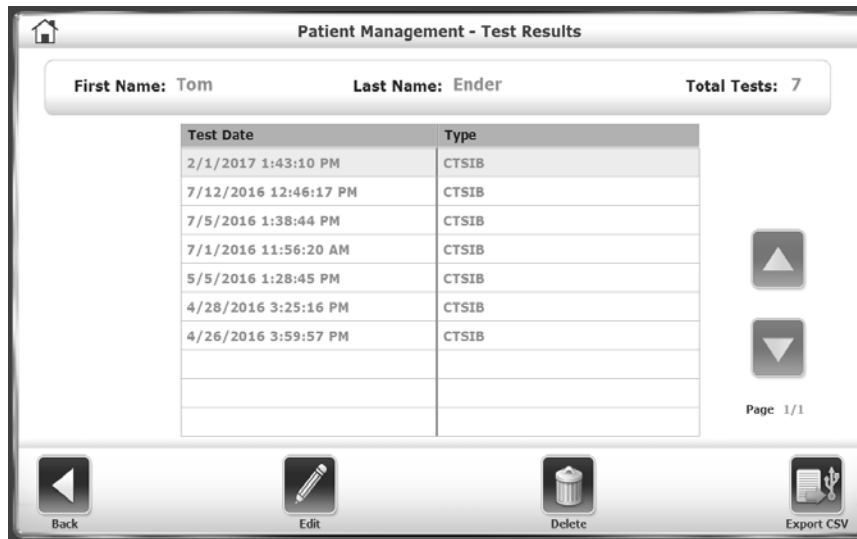

Figure 7.18. Selecting a Patient's Test Results.
- To view a patient's test results, touch the patient's name and touch <Next>. The Patient Management - Test Results screen is displayed, as illustrated in Figure 7.18. Touch a test and then touch <Edit>. The results for that specific test are displayed.